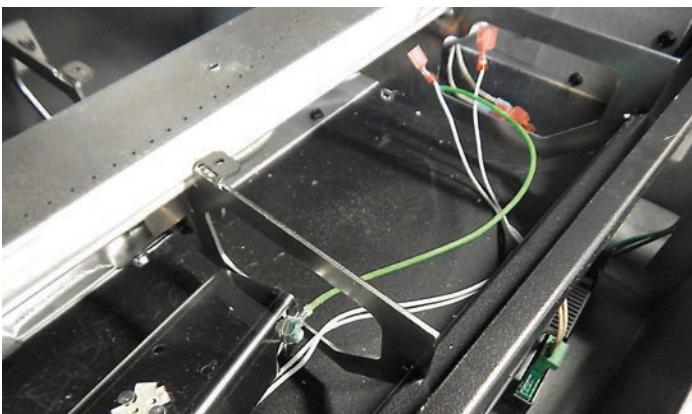

Figure 6
9. Install the Light bracket assembly with the Right Side bracket that includes the Green Ground wire first. Feed the ground wire and light wires with male terminal ends through the center/right burner support bracket and then through the right end burner bracket. **See Figure 6.**